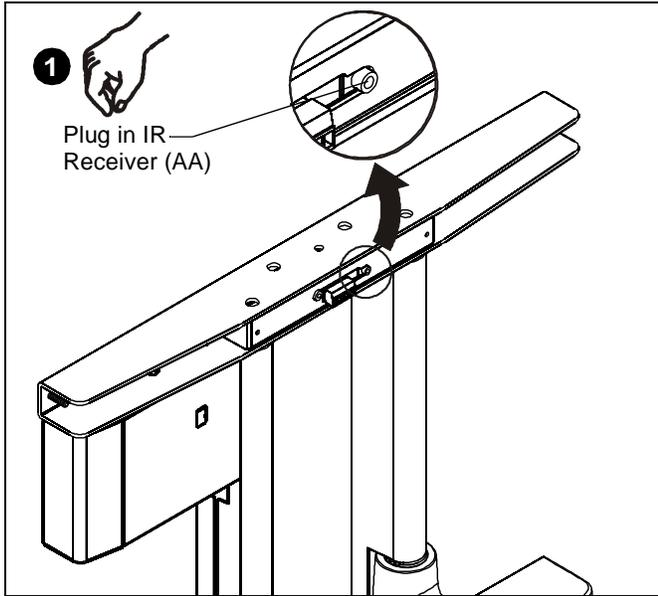

Figure 26
1. Plug IR receiver (AA) into PXR. (See Figure 3) and (See Figure 26)